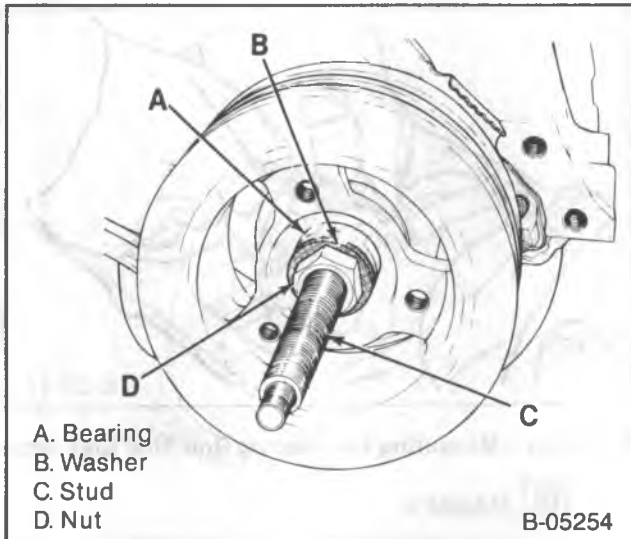

Figure 53—Installing the Torsional Damper
1. Key (163).
2. Stud (item C, figure 53) to the crankshaft (154). Thread the stud fully into the tapped end of the crankshaft.
3. Torsional damper (162) over the end of the stud. Align the keyway in the vibration damper shaft with the crankshaft key.
4. Bearing, washer, and nut (figure 53).
5. Bolt (160) and washer (161).